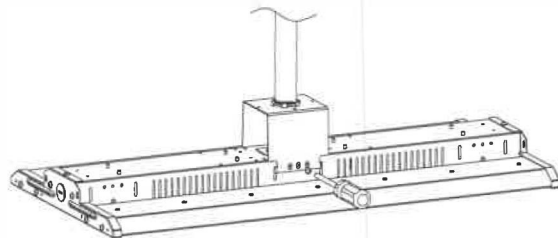

Figure3
2. Secure this fixture to the bracket (Figure 3);